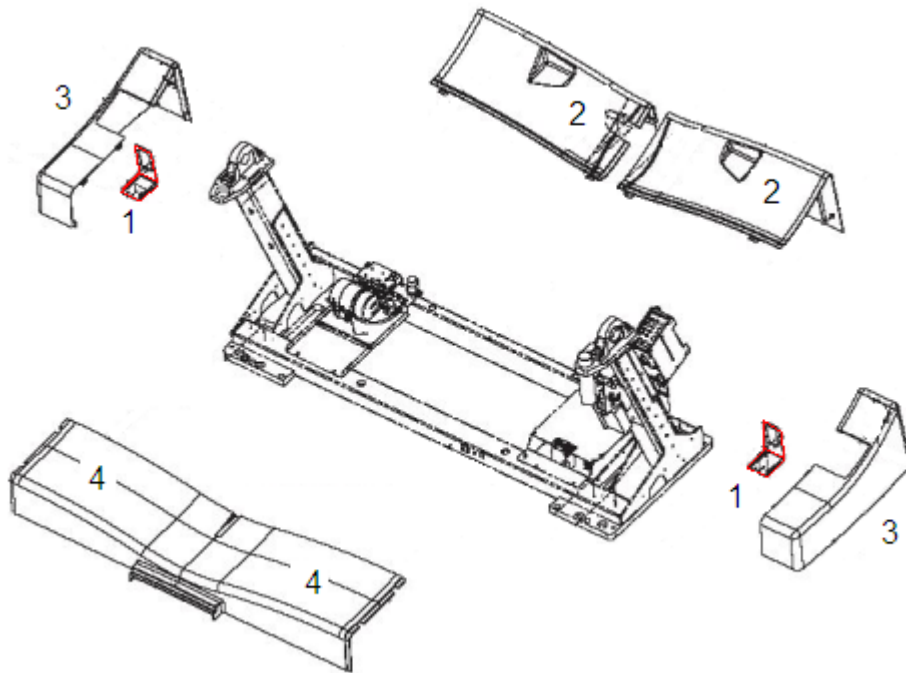

FIGURE 2-2 GANTRY BASE COVERS, EXPLODED VIEW
3. Remove the right side cover by lifting it upward to release the two (2) latches, located on the top edge of the cover. Once removed, the Service Switch Panel should be exposed.
5. If installed, remove both lower left/right/front rear base covers (2, 3 and 4) respectively, to gain access to the Option mount Bracket 1, as shown in Figure 2-2).